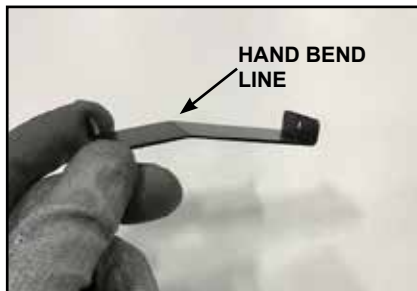

Figure 4 Bracket
4. Attach surround to the insert with four screws (located in appliance manual bag). See Figure 4. When installing a 4-sided surround, install shoulder screws in bottom corners of surround opening. Bend tabs on vanity panel toward the 90° return bend and hang on shoulder screws. See Figures 5 and 6.
Note: When being used with 4-sided surround, bend bracket approximately 15° at the hand bend line to avoid contact with vanity panel. See Figure 4.